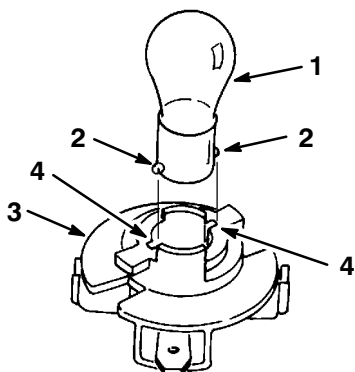

Figure 49
4. Push and rotate the bulb counterclockwise until it stops (approx. 1/4 turn) and remove the bulb from the bulb holder (Fig. 49).
1. The bulb has metal pins on the side of its base. Align the pins with the slots in the bulb holder and insert the base into the holder (Fig. 49). Push and rotate the bulb clockwise until it stops.